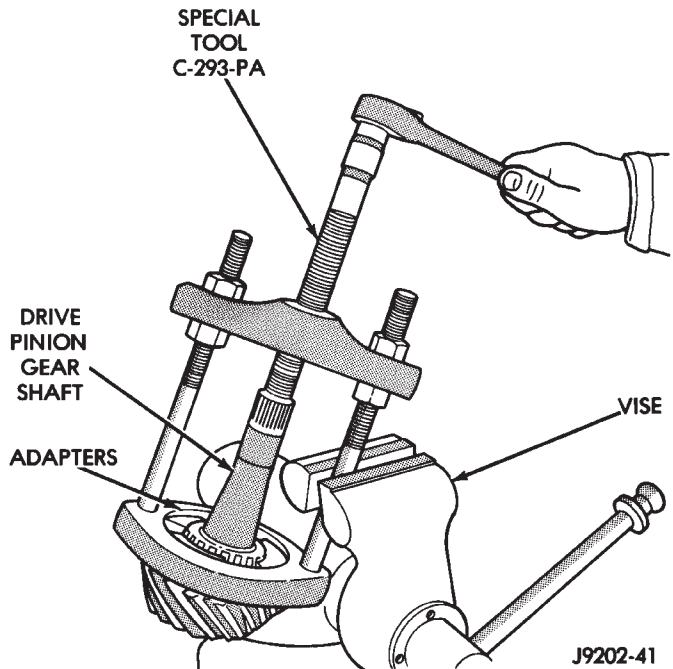

Fig. 51 Rear Bearing Removal
(12) Remove the rear bearing from the pinion with Puller/Press C-293-PA and Adapters C-293-40 (Fig. 51).